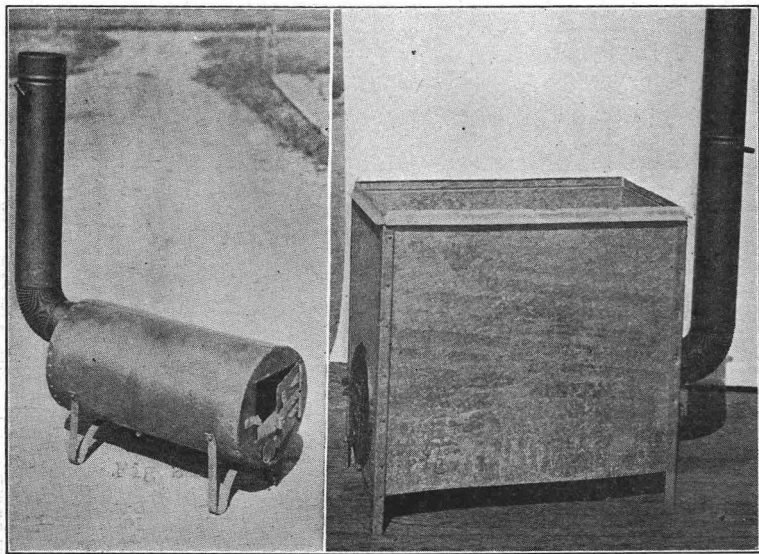

Fig. 2. Efficient, cheap, "Cannon" stove. Fig. 3. Fireproof case surrounding stove.
**Stove.** The heat is developed in a small "cannon" stove (24"x12") made by a local tinsmith of No. 20-gauge black iron, riveted, and standing 4 inches from the ground. (Fig. 2.) This stove, which can easily be made for \$4.50, works as well as a more expensive one. There is a collar at the flue end to which standard 5-inch pipe is attached. A damper in the pipe and a draft slide in the main door of the stove regulate the fire. By having a 1- to 2-inch layer of ashes in the bottom, there is little danger of burning out the stove.